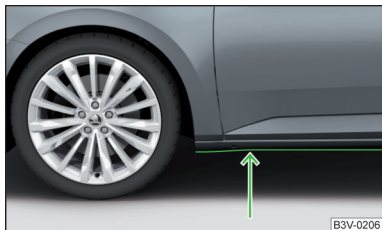

Fig. 267
- Therefore determine the depth of the water before driving through bodies of water. The water level must not reach above the lower edge of the lower brace » Fig. 267.